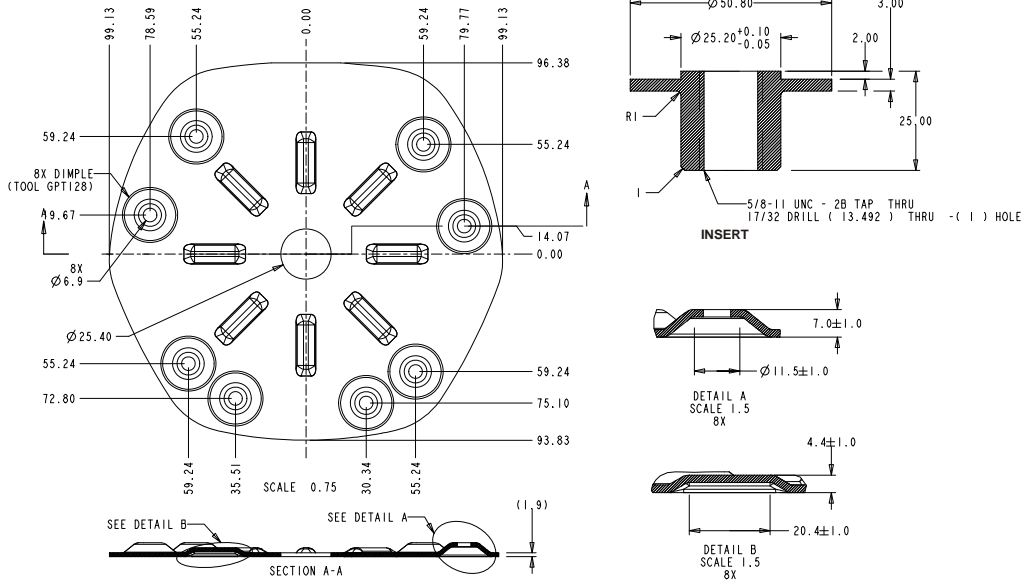

Figure 6: SMART-MR10 Pole Mount (70023087)
- Pole-mount (NovAtel part number 70023087), shown in Figure 6 on page 27.